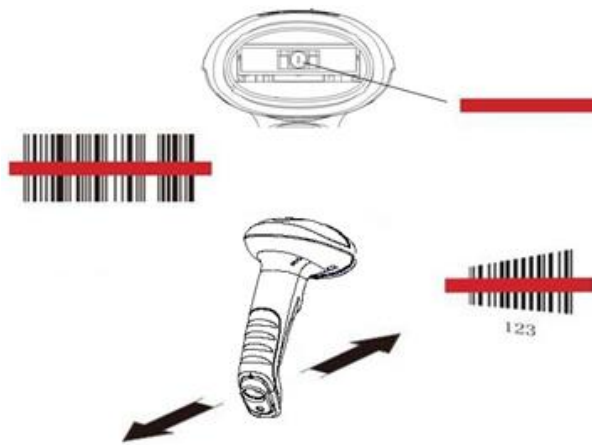

Fig. 1-13
2. Aim the red beam across the center of barcode, as shown in Fig.1-13.